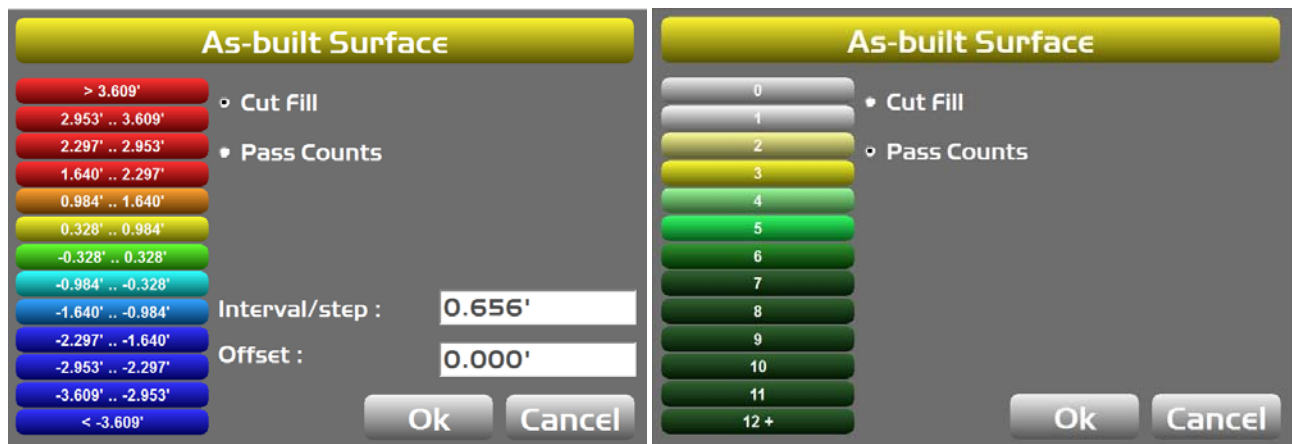

Figure 106: As-built Surface Screen
1. Press the Power button on the display, then tap **View** ▶ **Display Options** ▶ **As-built surface**. The **As-built Surface** screen appears (Figure 106).
3. Tap any interval button to change its color in the **Color Selection** screen (Figure 106).